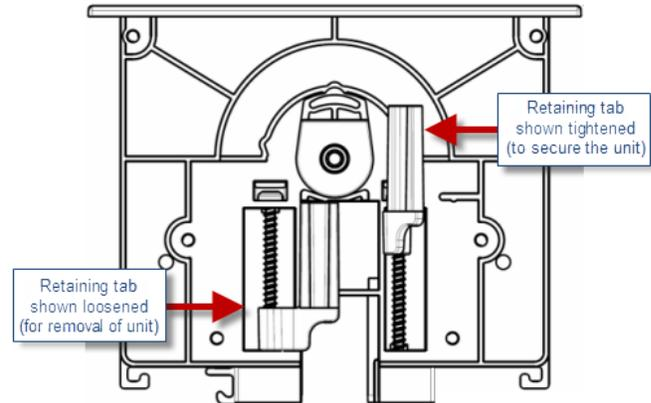

FIG. 3 HYDRAPORT BASE ASSEMBLY (SHOWN MOUNTED) - MOUNTING SCREWS LOCATIONS
3. Once the retaining tabs have been rotated out from under the mounting surface, the HydraPort assembly can be lifted away from the mounting surface. FIG. 3 provides a cutaway view of the End Cap, showing the retaining tabs in both the loose position and the tightened (secure) position:
2. Tighten the four mounting screws (loosened in Step 1, see FIG. 3) located inside and at each end of the HydraPort base assembly, to rotate the retaining tabs into locking position under the mounting surface.